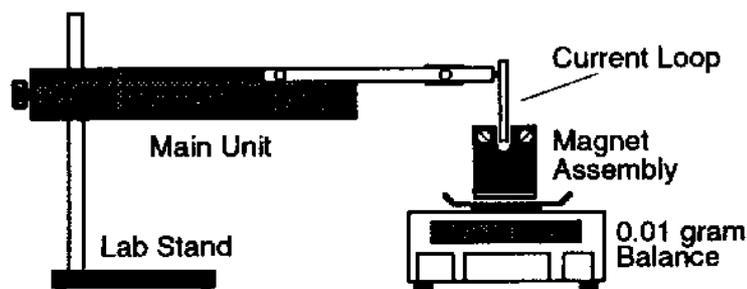

Figure 16.3: Setting up the Basic Current Balance
1. Set up the apparatus as shown in Figure 16.3
1. Set up the apparatus as shown in Figure 16.3 again.